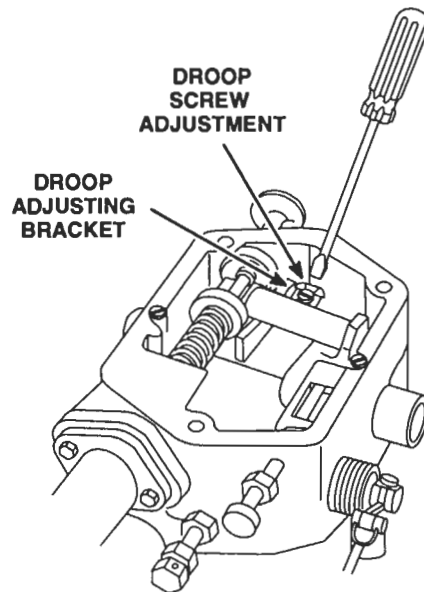

Figure 4. Adjusting Speed Droop
3. Loosen the locknut and back off the maximum speed adjusting screw approximately 5/8 inch (Figure 4.)